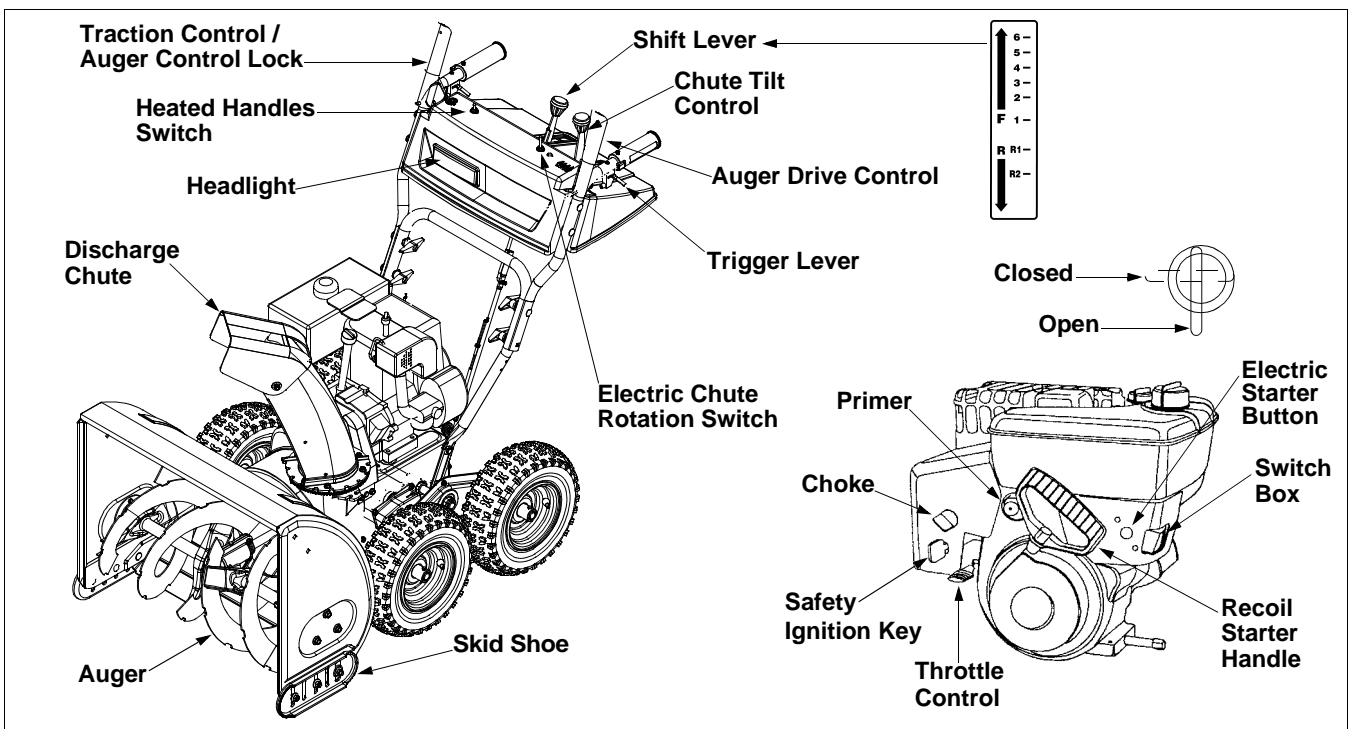

Figure 8
- Move the shift lever into sixth (6) position.
- a. With the traction control (refer to Figure 8) released, squeeze in triggers and gently push the snow thrower forward, then pull it back. Disregarding the overall weight of the
The traction control is located on the right handle. Squeeze the traction control to engage the wheel drive. Release to stop. See Figure 8.
The auger drive control is located on the left handle. Squeeze the control grip to engage the augers. Release to stop the snow throwing action. (Traction control must also be released.) See Figure 8.
The left and right turn triggers are located on the underside of the handles and are used to assist in steering your snow thrower. Squeeze the right trigger lever when turning right and the left trigger lever when turning left. See Figure 8.
The distance snow is thrown can be changed by adjusting the angle of the chute assembly. Move the chute tilt control forward to decrease the distance, toward the rear to increase. See Figure 8.
The position of the skid shoe is determined by the condition of the ground from where snow has to be removed. See Figure 8.
The shift lever is located in the center of the handle panel and is used to determine both ground speed and direction of travel. It can be moved into any of eight positions. See Figure 8.
The electric chute-rotation switch is located on the left side of the snow thrower dash panel. See Figure 8.
The throttle control is located on the engine. It regulates the speed of the engine and will shut off the engine when pushed down completely. See Figure 8.
The safety ignition key must be fully inserted in the switch before the unit will start. Remove the ignition key when the snow thrower is not in use. See Figure 8.
The fuel shut-off valve, located under the fuel tank, controls fuel flow from the tank. Always make certain it is in the Open (vertical) position before attempting to start the engine. See Figure 8.
This switch is located on the right side of the snow thrower dash panel. To activate the heated handles, toggle the switch to the right to generate heat within the handle grips. Toggle the switch to the left to the OFF position after using the snow thrower. See Figure 8.